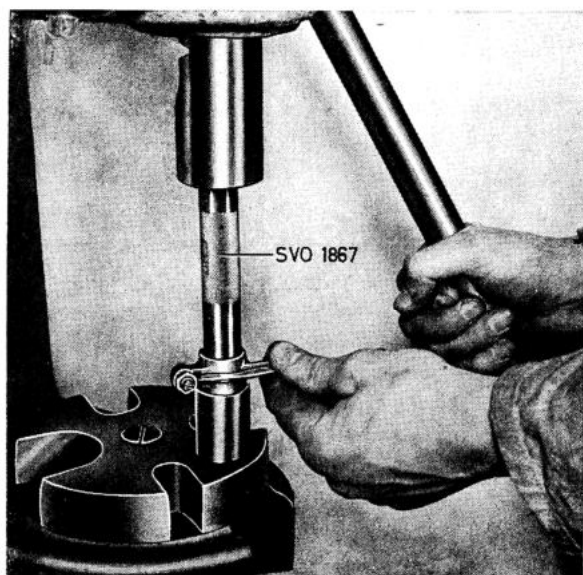

Fig. 2-23. Replacing bush in rocker arm
1. If wear amounts to 0.1 mm (0.004"), replace the rocker arm bush. Use tool SVO 1867 for pressing the bush out and in, see Fig. 2-23. Then ream the bush with a suitable reamer until an accurate fit on the shaft is obtained. The hole in the bush should coincide with the hole in the rocker arm.